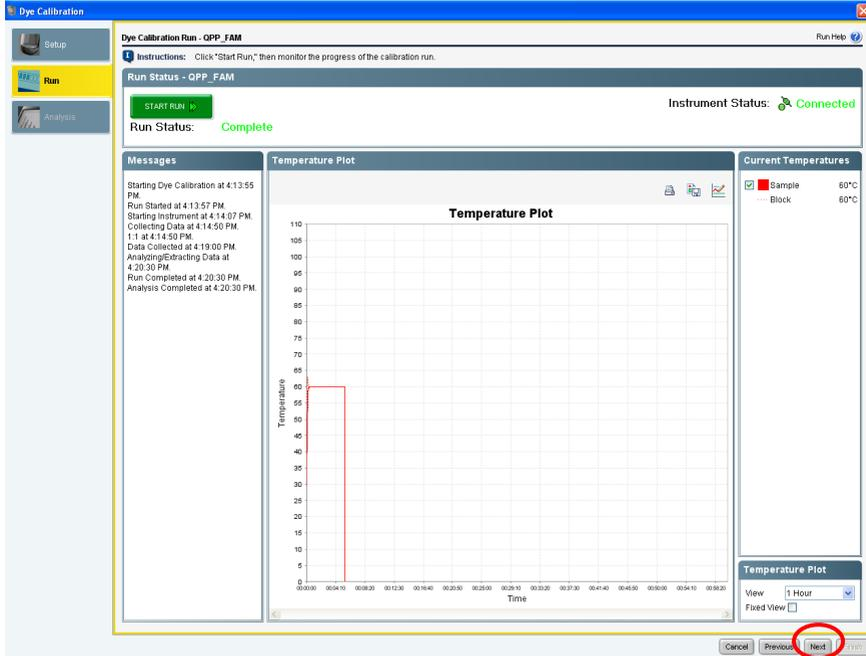

Figure 9. Completed calibration run.
10. After the calibration run has finished, click **Next** (Figure 9).